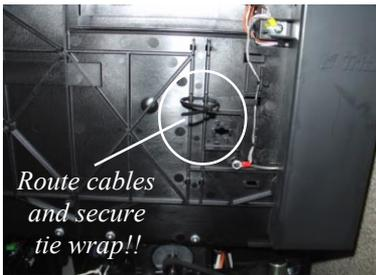
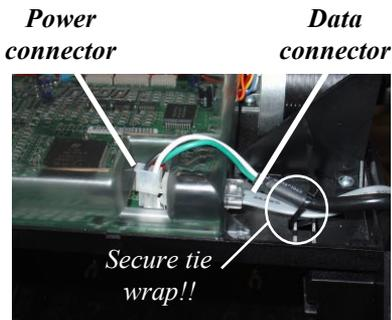

Figure 10. Cable tie wrap location for TDM-150 (side of dispenser).
Figure 11. Data / power connections.
9. **(For TDM-150)** Route the serial communications cable and power cable through the tie-wrap loop located on the side of the dispenser shown in Figure 10. Continue to route cables through second tie wrap as shown in Figure 11. Plug the data cable into jack J11. Plug the DC power connector into jack J12 (Figure 11). **Pull both tie wraps to secure cables to dispenser**
10. **(For TDM-100)** Rotate the dispenser 90° counterclockwise. Route the serial communications cable and power cable through the tie-wrap loop and plug the data cable into jack J11. Plug the DC power connector into jack J12 (Figure 11). **Pull tie wrap to secure cables to dispenser**